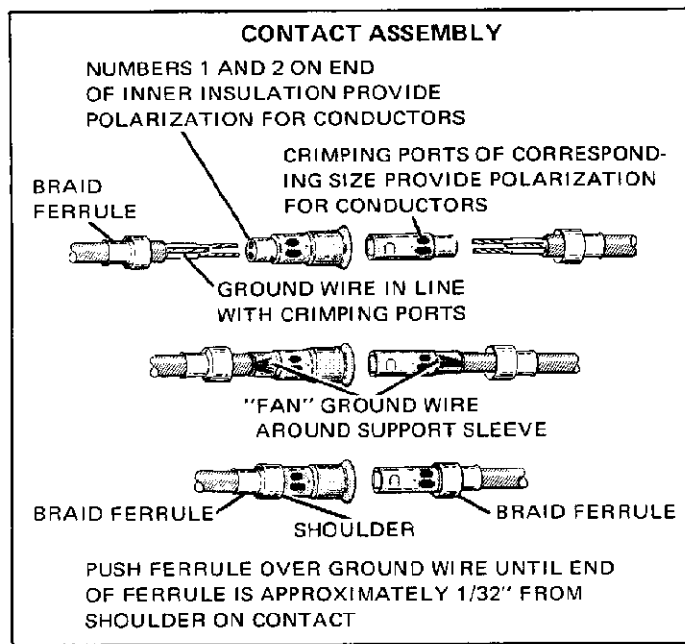

Figure 5
- Insert conductors into contact wire barrels as far as they will go. (Contacts have numbers 1 and 2 formed on ends of inner insulator. This feature permits polarization of conductors. Wire barrel crimping ports of corresponding size can also be used for this purpose. See Figure 5.)
- Slide ferrule forward over ground wire and contact support sleeve until ferrule is even with shoulder on contact. See Figure 5.